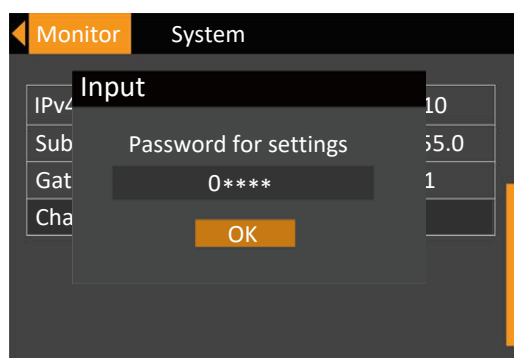

Figure 5-22 Password for settings
3. Press the  key, the interface shown in Figure 5-22 will appear.